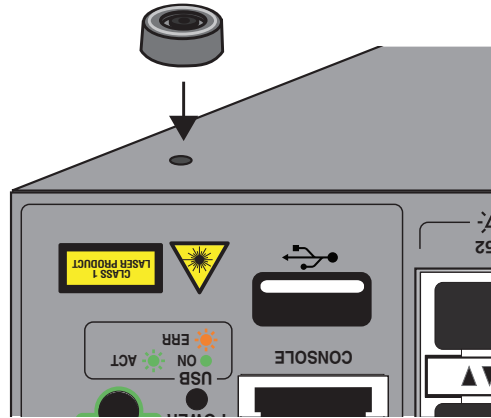

Figure 14. Placing the Bumper Foot on a Base Corner Hole
3. Place the bumper foot with rivet housing onto one of the holes in the base of the switch. Refer to Figure 14.